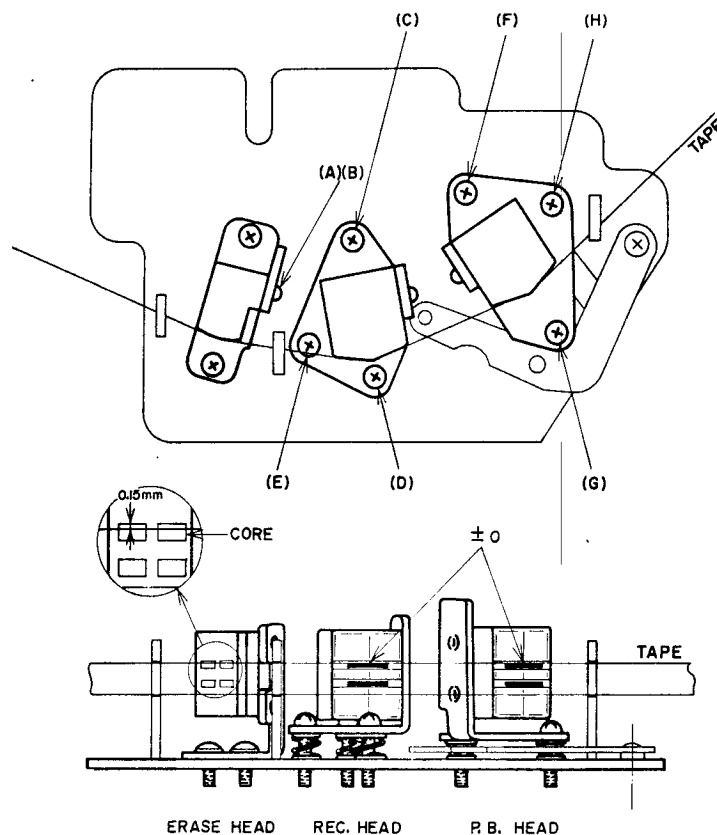

Fig. 17
(See Fig. 17)
Loosen screws (A) and (B) shown in Fig. 17 and adjust erase head height. Tighten screws at position at which the upper edge of the tape is 0.15 mm lower than the upper edge of the left channel head core of the erase head.
Adjust head height adjustment screws (C) and (D) shown in Fig. 17 so that the upper edge of the tape and the upper edge of channel 1 head core of the recording head are the same height.
Adjust head height adjustment screws (F) and (G) shown in Fig. 17 so that the upper edge of the tape and the upper edge of channel 1 head core of the playback head are the same height.
d. Adjust adjustment screw (H) to obtain maximum High Sensitivity V.T.V.M. indication on both channels.
ADJUSTMENT (See Fig. 17)